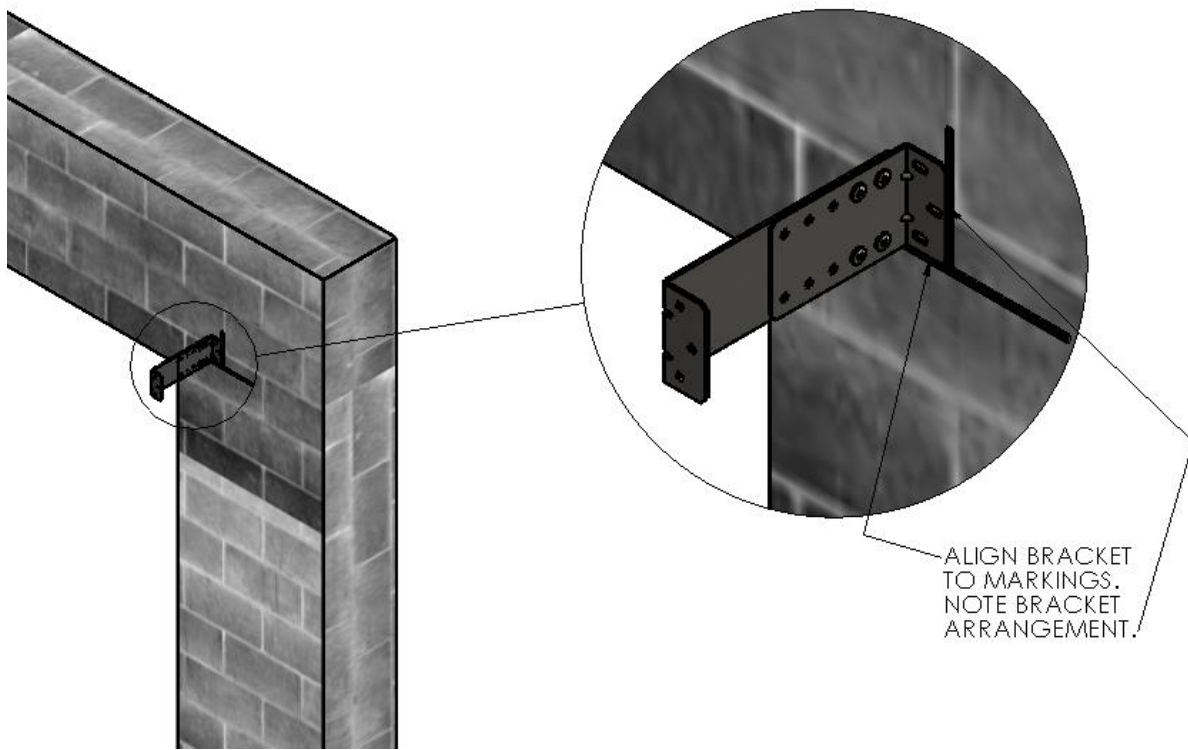
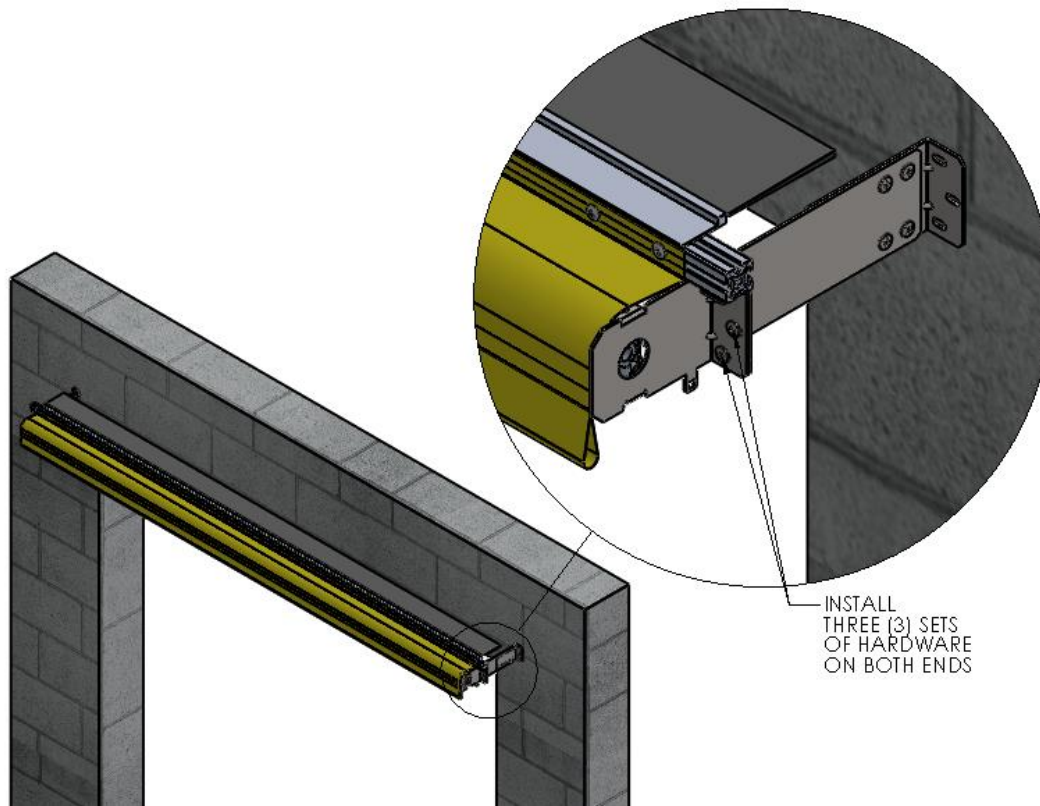

Figure 6 LOCATE/INSTALL HEADER PROJECTION MOUNTING BRACKET
Figure 7 MOUNT HEADER ASSEMBLY TO PROJECTION BRACKETS
1. With the slotted end of the Header Mounting Projection Bracket against the Mounting Surface, align the top surface of the Header Mounting Bracket with the Horizontal line on the Mounting Surface, and align the outer edge of the Header Mounting Bracket with the Vertical line on the mounting surface. (Figure 6 LOCATE/INSTALL HEADER PROJECTION MOUNTING BRACKET)
3. Predrill through the centers of the traced locations for the mounting hardware, three (3) pilot holes on each side. Using adequate mounting screws or bolts (appropriate for your building/surface material) attach the header Projection brackets to each side of the opening. (Figure 6 LOCATE/INSTALL HEADER PROJECTION MOUNTING BRACKET)
1. Using two (2) people, and two ladders at minimum, raise the Roll Header Assembly into place on the Projection Brackets and loosely tighten with three (3) sets of ¼-20 screws and hex nuts per side. Do not fully tighten hardware until the Header Assembly Brackets are aligned with the Projection Bracket's edges. (Figure 7 MOUNT HEADER ASSEMBLY TO PROJECTION BRACKETS) or (Figure 6 LOCATE/INSTALL HEADER PROJECTION MOUNTING BRACKET)